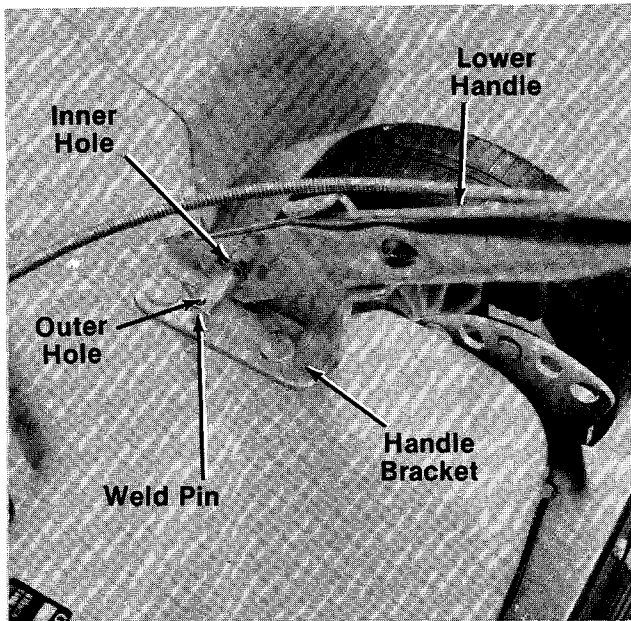

FIGURE 8.
- ← 2. Fasten lower handle in position over weld pins in handle mount brackets on deck. Secure with hairpin cotters in inner hole on weld pin. See figure 8.